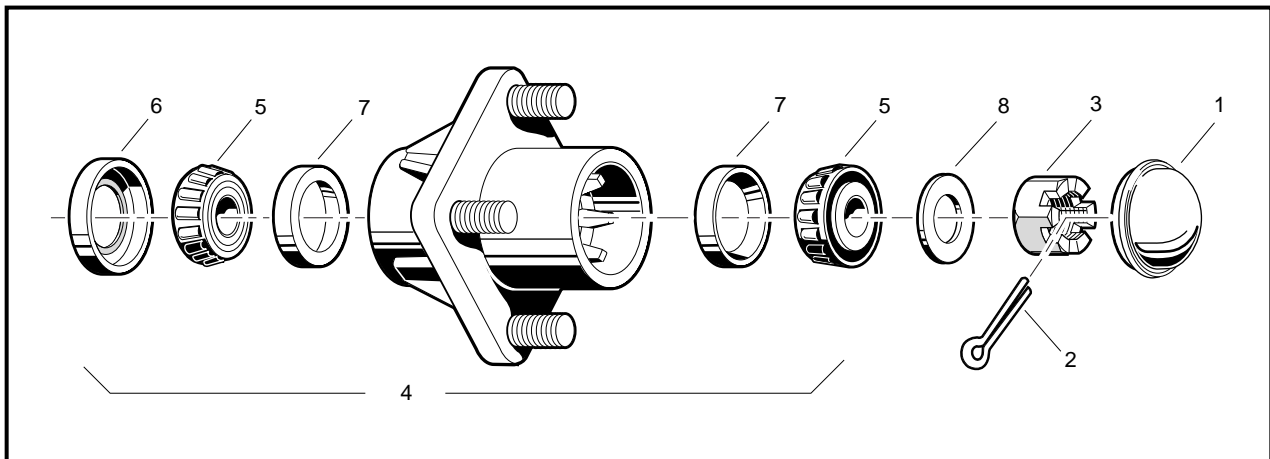

Figure 7-23 Front Wheel Bearings and Hub
2. Using your hands, attempt to rock the wheel and hub assembly back and forth on the spindle. If there is any observable movement of the wheel and hub on the spindle, remove dust cap (1) and cotter pin (2) and then tighten the spindle nut (3) until the bearing (5) fully seats in the bearing race (7) (**Figure 7-23, Page 7-22**).
4. Install a new cotter pin (2). If movement continues, replace the wheel bearings (5) as required (**Figure 7-23, Page 7-22**).
- 2.1. Remove dust cover (1), cotter pin (2), spindle nut (3), and flat washer (8) (**Figure 7-23, Page 7-22**).
- 2.2. Remove the hub assembly (4) from the spindle shaft (**Figure 7-23, Page 7-22**).
3. Remove the seal (6) and the bearings (5) from the hub (**Figure 7-23, Page 7-22**).
4. Inspect the bearing cups (7). If they are worn or pitted, remove the cups by inserting a drift punch from the opposite end of the hub and tapping lightly around them (**Figure 7-23, Page 7-22**).
6. Inspect the surface of the spindle shaft where the seal (6) seats. It should be clean and smooth (**Figure 7-23, Page 7-22**).
1. Pack the wheel bearings (5) and hub cavities, and lubricate cups (7) with wheel bearing grease or chassis lube. Make sure the grease is forced between the rollers (**Figure 7-23, Page 7-22**).
2. If bearing cups (7) were removed, press new ones in squarely against stops in the hub (**Figure 7-23, Page 7-22**).
3. Install the wheel bearings (5) into the hub and install a new seal (6), with the metal edge toward the hub (**Figure 7-23, Page 7-22**). **See following NOTE.**
4. Install the hub assembly (4) and flat washer (8) on the spindle and start the spindle nut (3) (**Figure 7-23, Page 7-22**).
5. Tighten the spindle nut until the hub is hard to turn, then back the nut (3) off until the hub turns freely. Install a **new** cotter pin (2) (**Figure 7-23, Page 7-22**).
7. Install the dust cap (1) (**Figure 7-23, Page 7-22**).